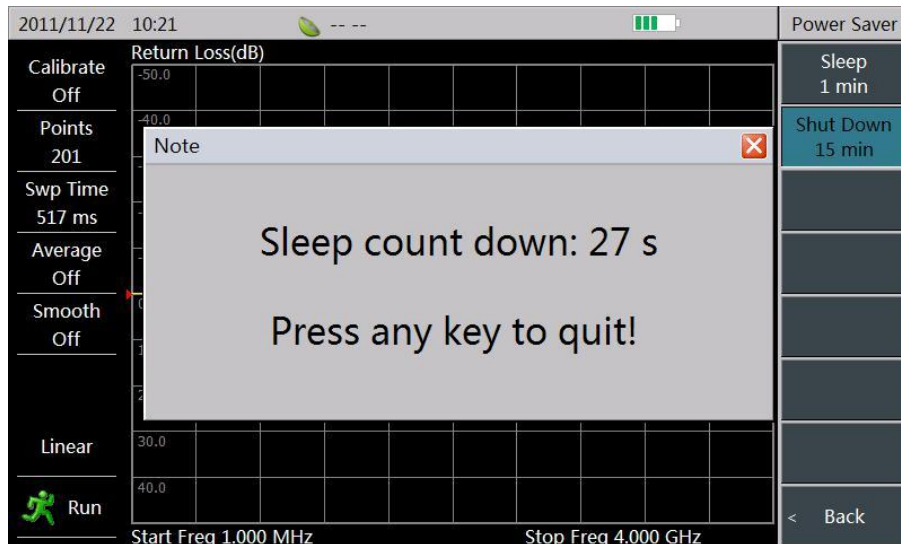

Figure 6-4 System Sleeping Function
- Click power saving mode menu bar [Sleep Time] and set system sleep time with **【↑】** **【↓】** keys, knobs, and numeric keys. Press **【Enter】** key and complete sleep time setting. 30s before system enters sleep mode, a “Notice” dialog box will be brought up and indicate system will enter sleep mode soon, as shown in Figure 6-4. You may click anywhere on screen or any keys (excluding On/Off key and Reset key) on keyboard to cancel this sleep when the instrument is in sleep mode or countdown to sleep mode. System will then perform timing operation of the next round according to sleep time. You may also click [Sleep Time] menu again and turn off sleeping.